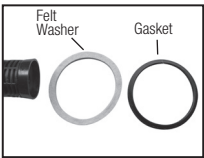
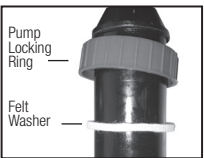

Figure 5
Figure 6
6) Pressure Chamber Housing Gasket and Felt Washer: Slide both the gasket and felt washer off the pressure chamber body (Figure 5). Replace felt washer first taking care not to fold over washer as it is worked up the pump chamber and into the pump locking ring (figure 6). The felt washer is pre-lubricated to provide lubrication between the pressure chamber housing and pressure chamber housing gasket. Insure the felt washer is free of contamination before installing. Replace gasket into the pump opening in the tank insuring the flanged end is up (if this is assembled backwards leakage will occur) (Figure 7). Insure that the sides of the gasket are inside the tank pump opening and the flange is sitting level on the tank pump opening seal surface area.